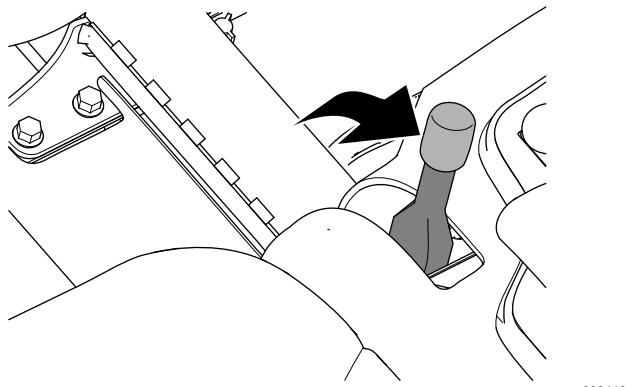

Figure 28
- Engage the parking brake (Figure 28).